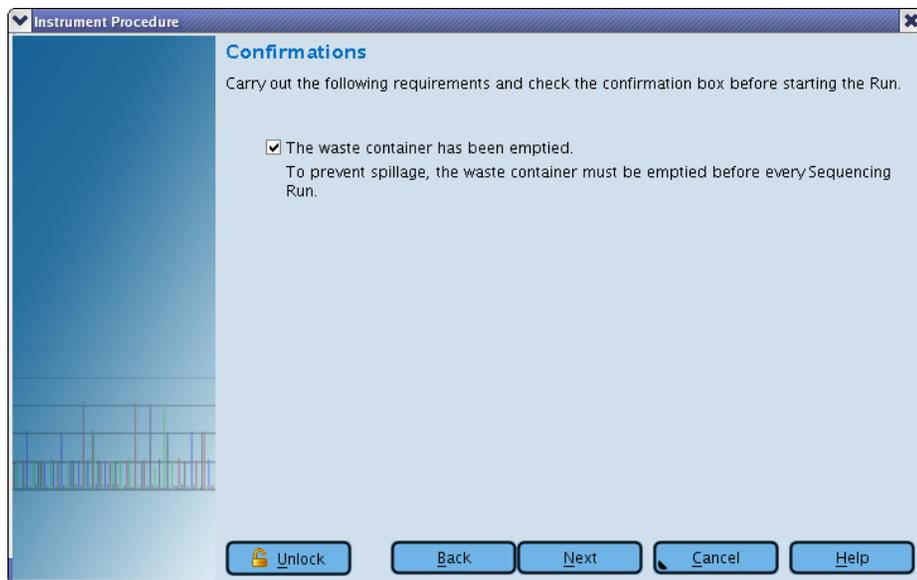

Figure 28: The Run Wizard's ninth window: Confirmations
- This opens the ninth window: Confirmations (Figure 28)